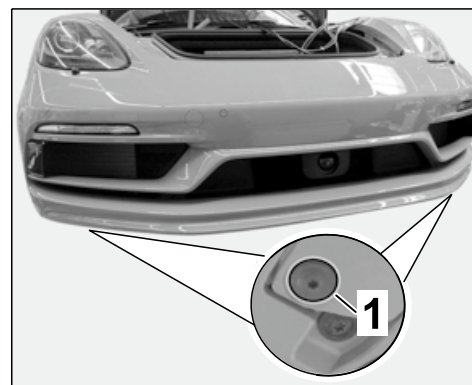

Figure 31
- 5.13.2 Secure spoiler lip with new tapping screws (999.073.227.09)  $\Rightarrow$  *Figure 31* -1-.